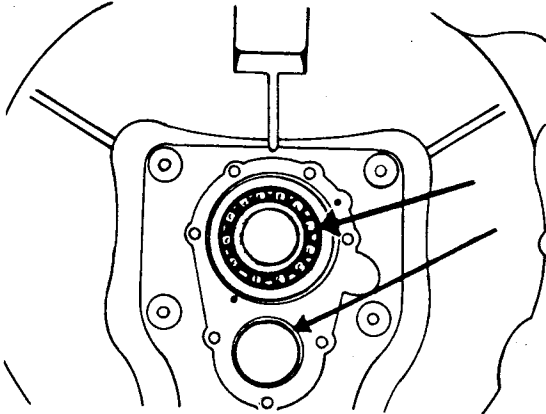

Fig H1.38
- (3) Refer to Fig H1.38. Remove the primary shaft bearing together with its plastic ring and the conical bearing track from the front part of the layshaft.